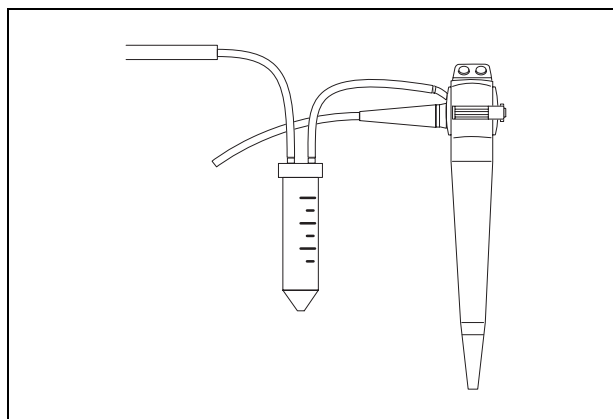

Figure 4.5
1. Disconnect the suction tube from the suction valve. Connect the suction tube to the suction connector of a commercially available BAL kit. Connect the BAL kit's suction line to the suction connector of the suction valve (see Figure 4.5).